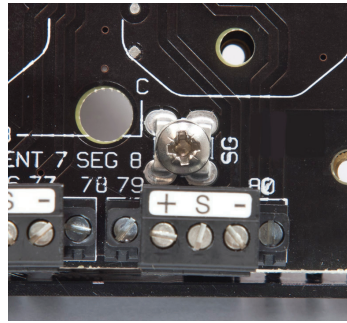

Figure 5.6 - Ground connection
All segment cable screens are linked together and connected to a grounding screw terminal (SG) located close to the Segment 8 connection terminals. See Figure 5.6.
If the design policy is to ground the fieldbus cable screens at the fieldbus power supply, then the cable screens should be connected to the 'S' terminals on the pluggable field segment connectors. The 'SG' grounding screw (see Figure 5.6) should then be connected to a clean (electrical) ground point in the power supply cabinet. This also provides a ground reference for the F809F-Plus diagnostics module, if it is fitted.
In this situation, the cable screens should not be connected to the 'S' terminals but cut back and insulated to avoid contact. The 'SG' grounding screw (see Figure 5.6) should then be connected to a clean (electrical) ground point in the power supply cabinet to provide a ground reference for the F809F-Plus diagnostics module, if it is fitted.